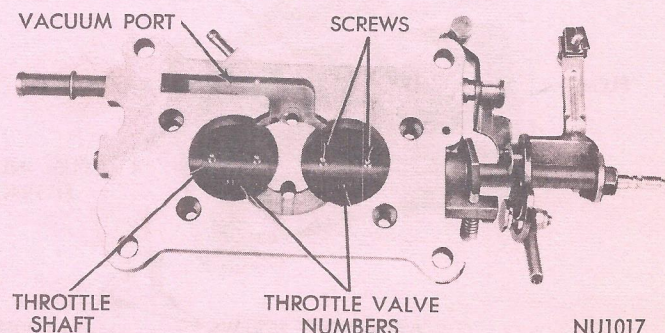

Fig. 18—Throttle Valves Installed
(1) Slide new valves into position on throttle shaft, with the valve number on the bottom or mounting flange side, and away from vacuum port (Fig. 18).